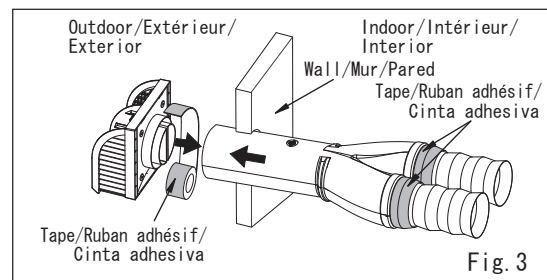

Fig. 3
(4) Insert the Pipe through the hole from indoor to outdoor. (Fig. 3)
(5) Join the end of the Pipe to the Vent cap. (Fig. 3)
(6) Please secure the Pipe and the Vent cap together with UL181A certified pressure sensitive tape or mastics. (Fig. 3)